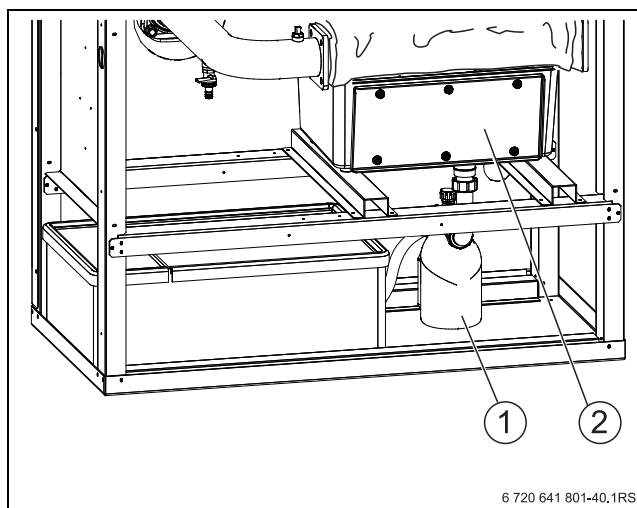

Fig. 59 Removing the siphon
- ▶ Remove the siphon (→ Fig. 59, [1]) from the drain of the condensation catch pan (→ Fig. 59, [2]) and place a bucket or pan below it.